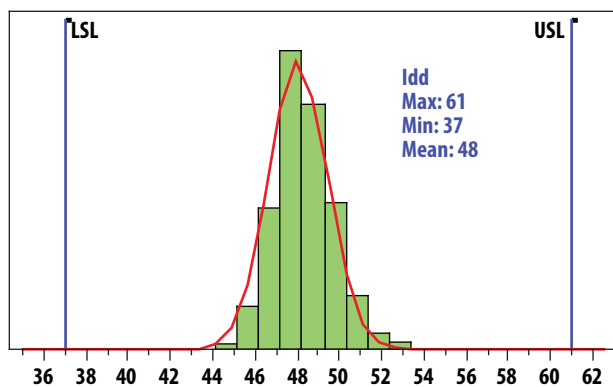

Figure 1. Idd @ 1.9GHz, 5V, 48mA Mean = 48
RF performance at $T_A = 25^\circ\text{C}$, $V_{dd} = 5\text{V}$, $R_{bias} = 5.6\text{ k}\Omega$, 1.9 GHz , measured on demo board in Figure 1 with component listed in Table 1 for 1.9 GHz matching.
1. Measurements at 1.9 GHz obtained using demo board described in Figure 1.